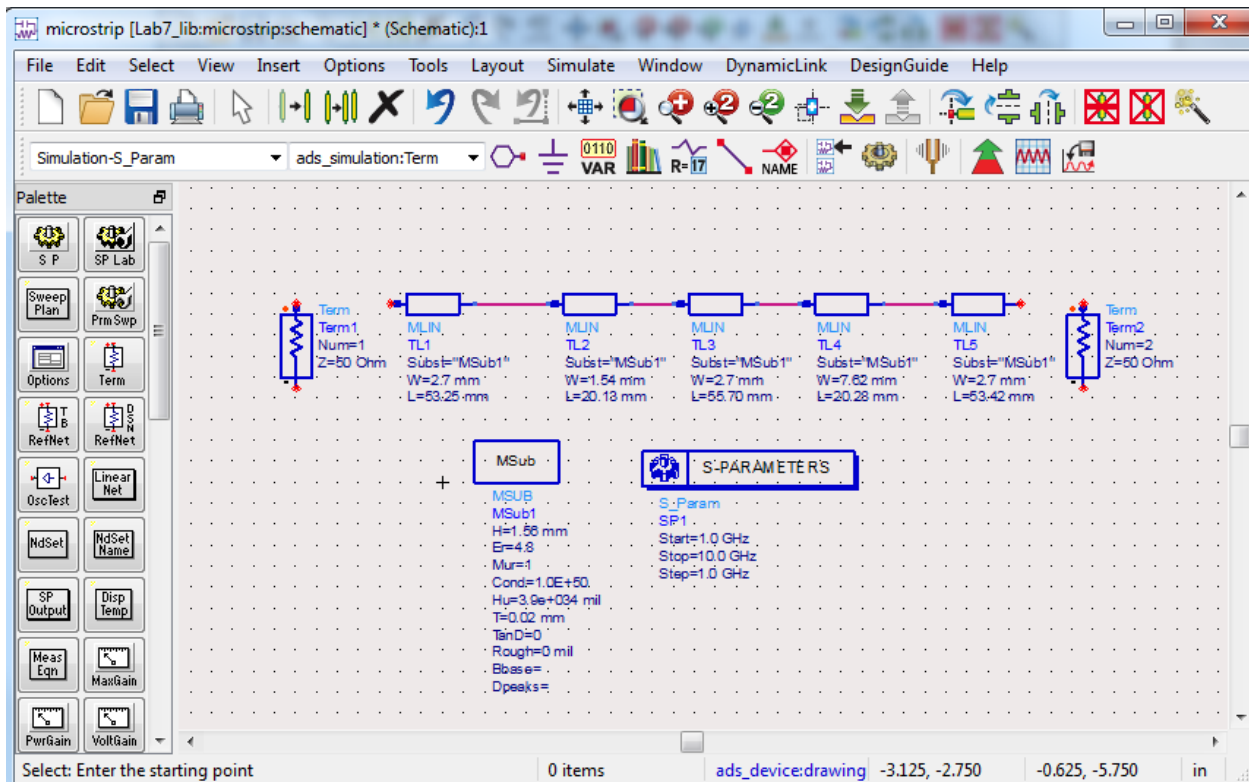

Figure 4: Adding S-parameter Terminations and Simulation Controller.
- 4) Now, switch to the “Simulation-S_Param” library. Click on  and place two of them then click on  and place one of them as shown in Figure 4. The terminations are like the measurement ports on a network analyzer and the “SP” block is the simulation controller.